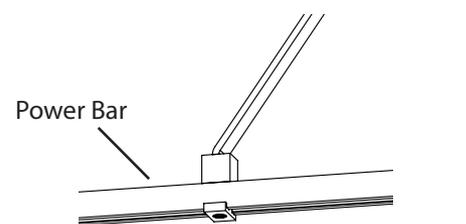

Fig. 4
5. Insert **Power Bar** onto the **Bracket** and reattach the **Bracket Cover** with **Flat Head Screw** (Fig. 4).